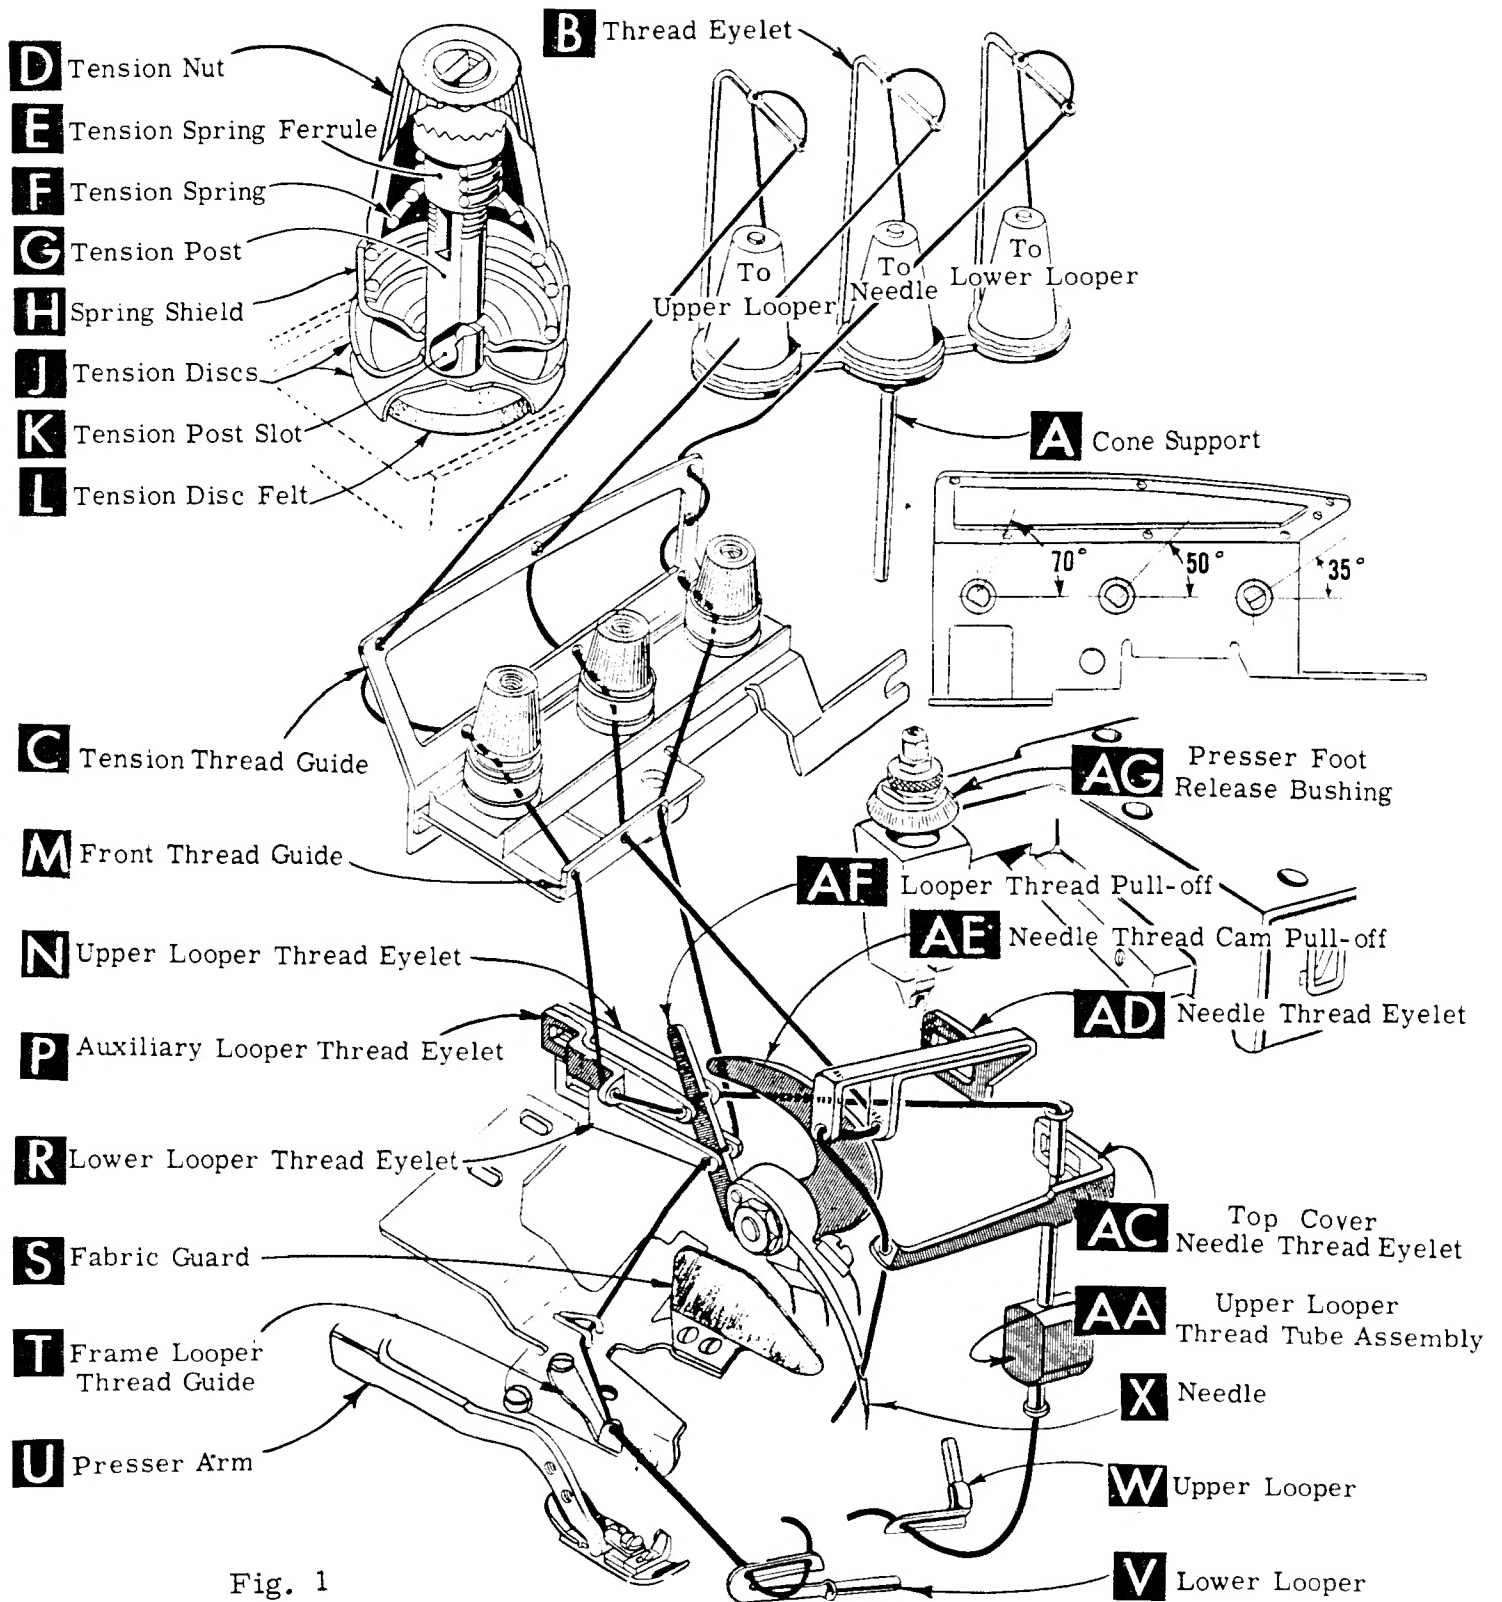

Fig. 1
Release pressure on presser foot by turning presser foot release bushing (AG, Fig. 1) and swing presser arm (U) out of position. Turn handwheel in operating direction until needle is at its lowest point of travel. Using hexagonal socket wrench No. 21388 AU, furnished with machine, loosen needle clamp nut about 1/4 turn. Again turn handwheel until needle is at high position; withdraw needle.
After thread comes from cones on cone support (A, Fig. 1), it is brought up through back hole of thread eyelet (B), then down through the front hole of thread eyelet. Next it is threaded through the upper holes of tension thread guide (C) from front to back and then through the lower holes from back to front. It should be noted that the lower looper thread is threaded through the tension thread guide (C), first through the upper hole back to front, second through the middle hole front to back and third through the lower hole back to front. All threads then continue between the tension discs (J), through tension post slot (K) in tension post (G) and on through front thread guide (M).
Only parts involved in threading are shown in threading diagram (Fig. 1). Parts are placed in their relative positions for clarity.
Thread lower looper thread through right eyelet of front thread guide (M). Then double end of thread and lead it through both eyes of lower looper thread eyelet (R, Fig. 1) from right to left. Note: thread must pass in front of looper thread pull-off (AF). Lead thread behind fabric guard (S) and through eyelet hole of frame looper thread guide (T). Turn handwheel in operating direction until heel of lower looper (V) is all the way to the left; then thread through both eyes from left to right. Left eye of lower looper can be threaded easily if tweezers are in left hand.
Thread needle thread through middle eyelet of front thread guide (M). Then turn handwheel in operating direction until needle (X, Fig. 1) is at its highest position. Insert needle thread from right to left, through both eyes of needle thread eyelet (AD), under neck of top cover casting; then down through hole in top cover needle thread eyelet (AC). Thread needle from front.
The amount of tension on needle and looper threads is regulated by the tension nuts (D, Fig. 1). Tension on threads should be only enough to secure proper stitch formation.
Be sure machine is threaded according to threading diagram (Fig. 1). With thread tensions light, set looper thread eyelets (N and R) about horizontal and in the middle of their front to back locations. Operate machine slowly, without presser foot in place, to make sure that chain forms and moves off the tongue freely. Swing presser foot into position, insert material and sew slowly.
While sewing on material, check needle thread control as follows: Usually all needle thread is drawn on needle downstroke. At top of needle stroke, thread should be just tight enough to feed chain off stitch tongue. Stitch tends to pull down slightly if excessive thread is pulled on the upstroke. With needle at bottom of stroke, position needle thread eyelet (AD, Fig. 1) so that needle thread cam pull-off (AE) just contacts needle thread.
With material under presser foot, set lower looper thread eyelet (R, Fig. 1) back far enough so thread is a little slack when looper thread pull-off (AF) reaches its most rearward position. Looper thread pull-off (AF) is set about 1/8 inch distance behind needle thread cam pull-off (AE). Frame looper threadguide (T) should be set with its eyelet approximately 1/8 inch to the right of lower looper (V) heel eyelet at the time lower looper is at extreme left end of its travel.
Before proceeding to adjust upper looper thread eyelet (N, Fig. 1) balance all three tensions to give a normal appearing stitch. Moderate change in these tensions will not markedly affect the purl.